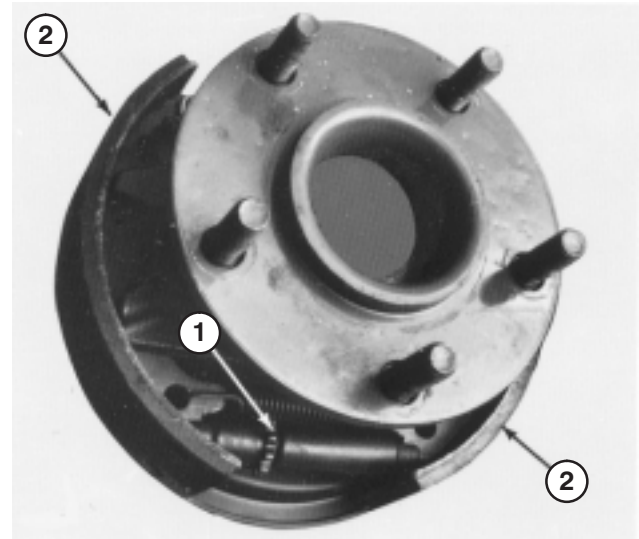

Figure 47
6. Using a brake adjusting tool or screwdriver, rotate star nut down until brake drum locks because of outward pressure of brake shoes (Fig. 47).